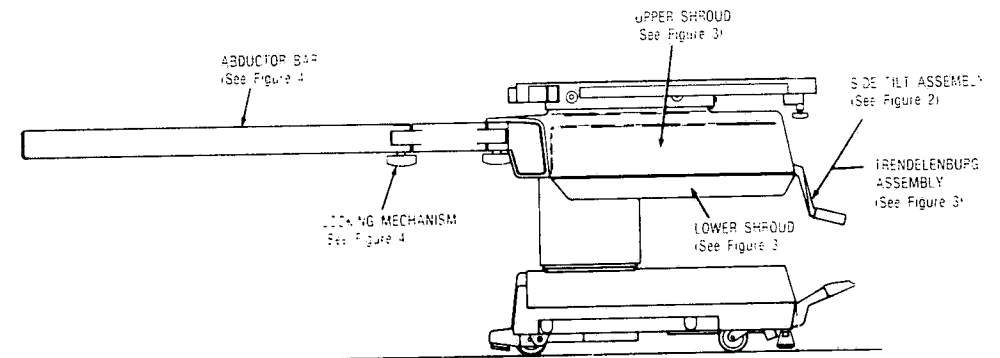

Figure 1. GENERAL COMPONENT LOCATION.
- Figure 1. GENERAL COMPONENT LOCATION.